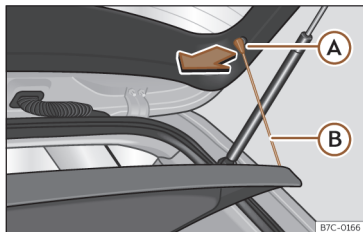

Fig. 161 In the boot: removing and installing the shelf.
- Detach the cord loops >>> **Fig. 161 (B)** from their hooks **(A)**.
- Attach the securing straps >>> **Fig. 161 (B)** onto the rear lid.